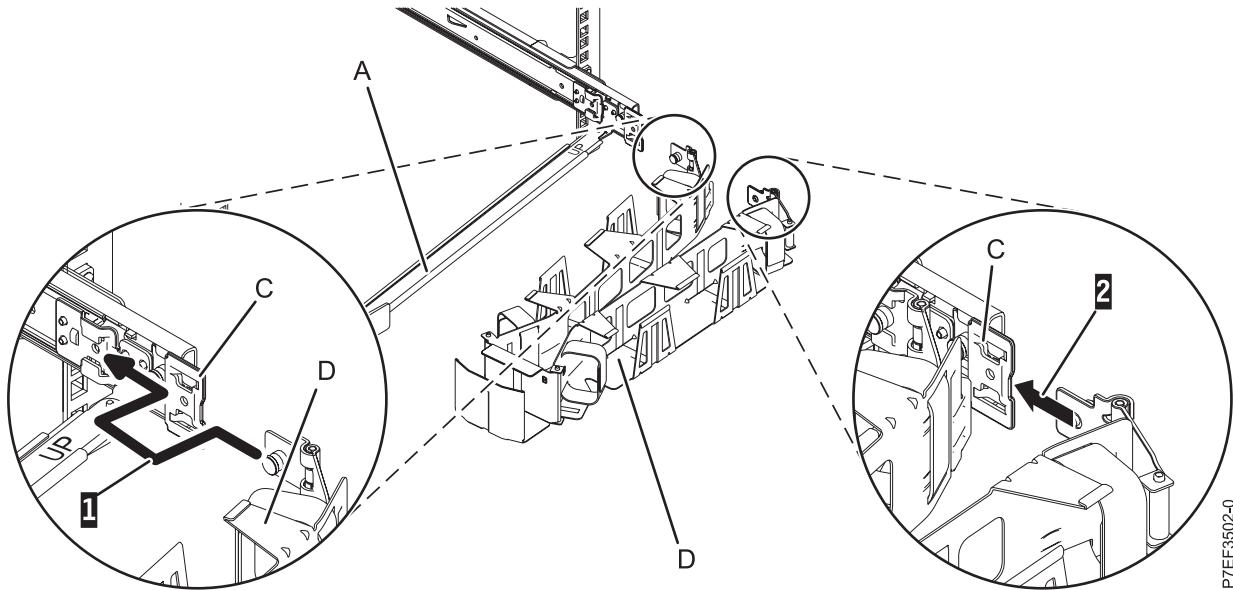

Figure 17. Connecting the cable-management arm
- Place the cable-management arm (D) on the support arm (A). Slide the cable-management arm tab into the slot on the inside of the right slide rail (1). Push the tab until the spring-loaded latch snaps into place. Slide the other cable-management arm tab into the mounting bracket slot (C) on the outside of the right slide rail (2). Push the tab until the spring-loaded latch snaps into place, as shown in Figure 17.